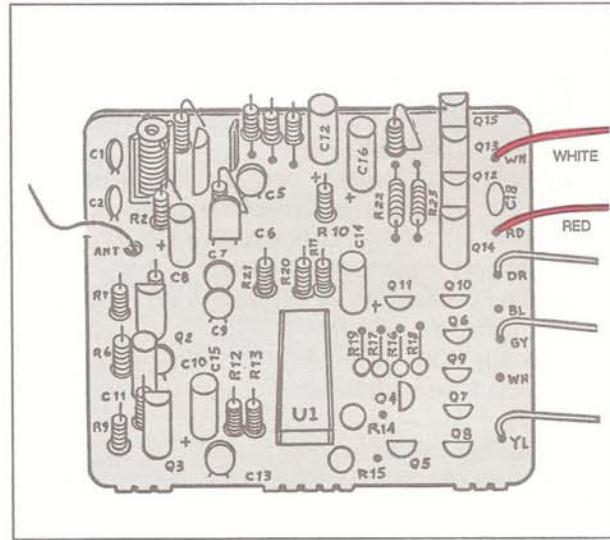

FIG. 79
- 7. Connect and solder the Actuator's leads to the points specified in Fig. 79.